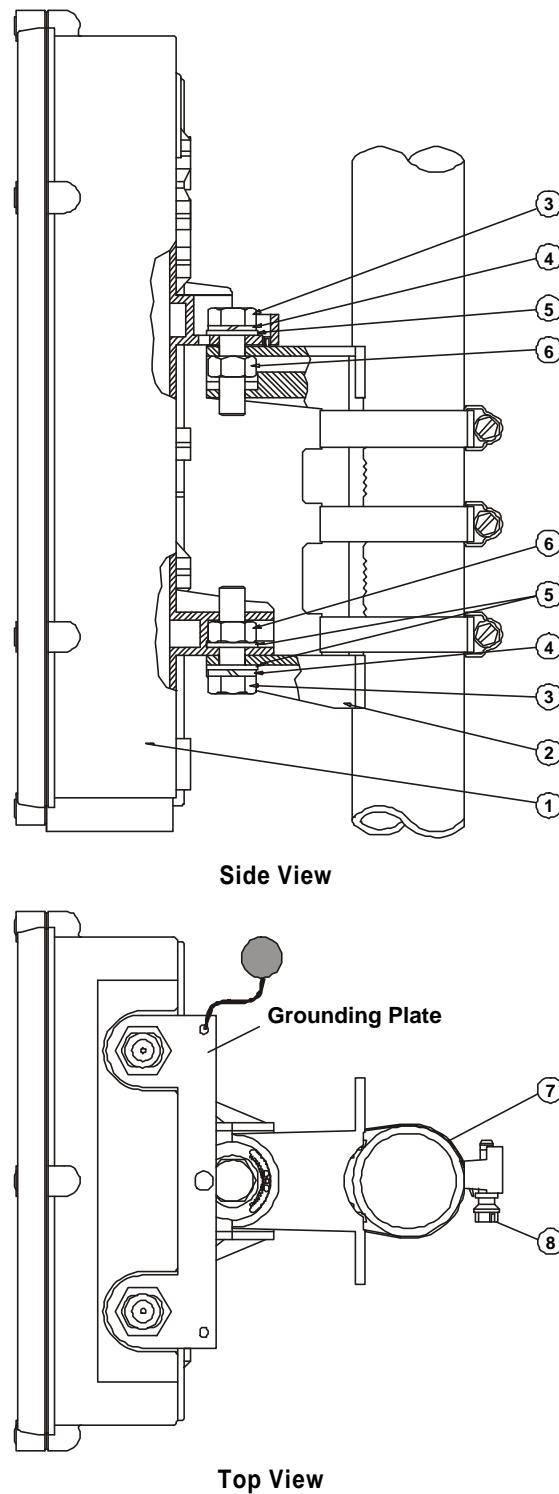

Figure 4-13. RPC Mounted on Mast
Figure 4-13 shows the RPC attached to a pole by means of a fastener. Numbers in brackets indicate item numbers in Figure 4-13.
- Three. Attach the fastener (2) to the RPC (1) by means of screws (3) spring washers (4), flat washers (5) and nuts (6) as shown in Figure 4-13. Note that two flat washers are used around the lower screw.
Three. Attach the RF cables to the dual antenna support using plastic straps, as shown in Figure 4-13.